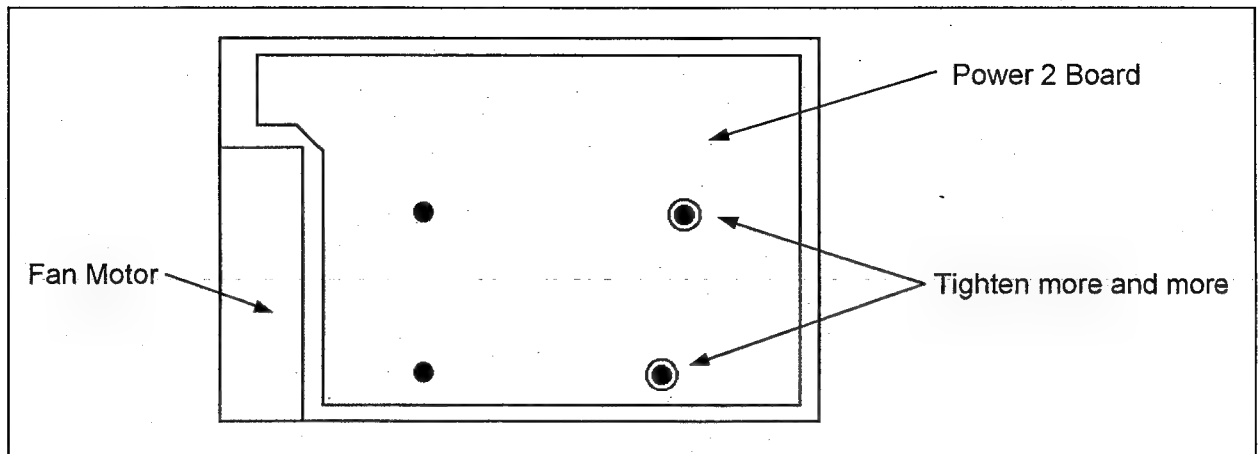

Fig. 8
- 3). The fixing screws for Power 2 Board are tightened more and more as shown in figure 8.
- 4). The fixing screws for Power 2 Board are tightened more and more as shown in figure 8.